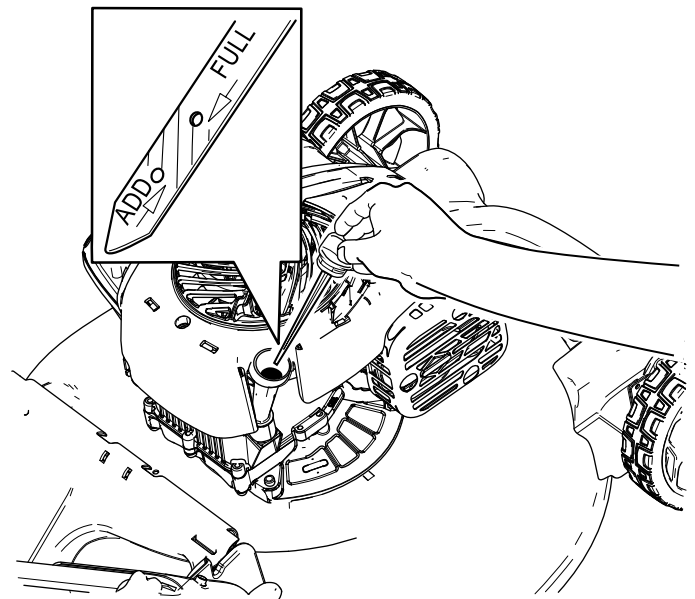

Figure 17
3. Remove the dipstick by rotating the cap counterclockwise and pulling it out (Figure 17).
10. Read the oil level on the dipstick (Figure 17).